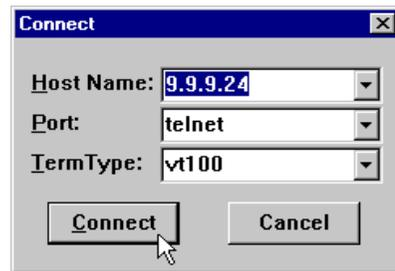

Figure 225. Connection Window
2. After the Telnet window opens, you click **Connect** from the menu bar. The connection window opens (Figure 225) and you enter ProdServHQ’s IP address in Host Name. Use the defaults for the other fields.